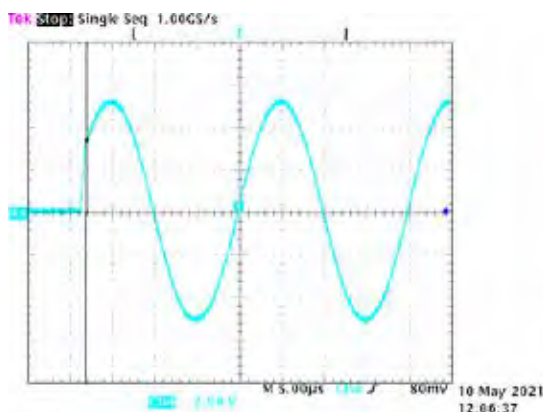

Figure 1 Example Oscilloscope Reading
3. Set oscilloscope to a single trigger, causing the scope to trigger once such that you get an image similar to Figure 1.